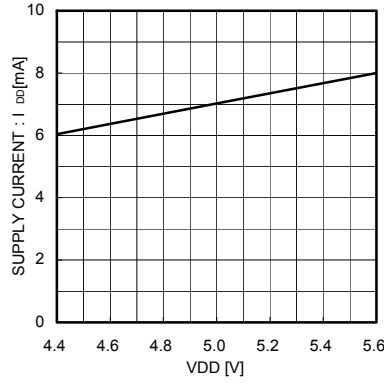

Fig.3 VDD Circuit Current (Supply voltage dependence)
- Standby mode can be configured by I²C-BUS. Only the section marked in the dotted line, in the Figure 3, Block Diagram, is active during standby state. All others are off.